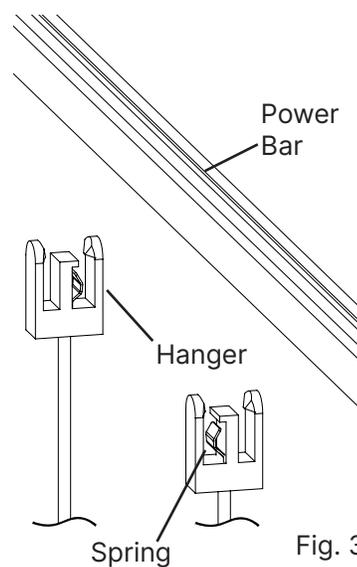

Fig. 3
1. Make sure **Spring Contacts** of each **Hanger** face opposite directions (Fig. 3).